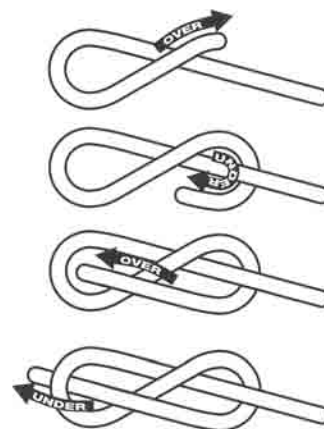

Figure 9
8. To reattach the handgrips, thread each cord through the hole in the handgrip from the tip to the inside of the grips. Next, slip a washer onto the cord and tie a knot near the cord end to secure it. A figure-eight knot works best. See Figure 9.